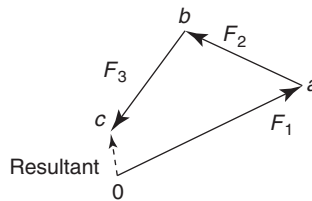

Figure 3.13
- Draw *oa* to scale to represent force F_1 in both magnitude and direction (see Figure 3.13)
- (iv) The resultant vector is given by length oc in Figure 3.13. The direction of resultant oc is from where we started, i.e. point o , to where we finished, i.e. point c . When acting by itself, the resultant force, given by oc , has the same effect on the point as forces F_1 , F_2 and F_3 have when acting together. The resulting vector diagram of Figure 3.13 is called the **polygon of forces**.